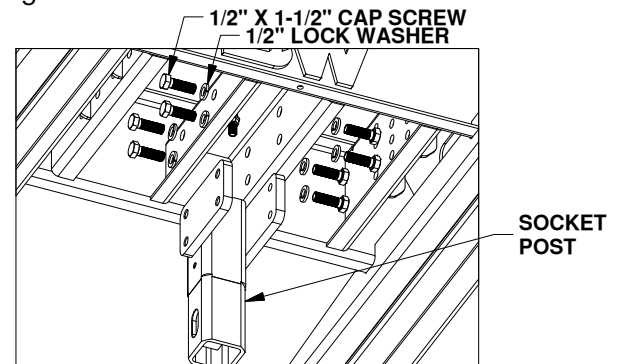

Figure B2: View of base looking up at the bottom.
- 2. Attach socket post.** Once you have established in which orientation the socket post should be installed, locate the socket post, eight 1/2" X 1-1/2" cap screws, and eight 1/2" lock washers. Slide the socket post into the bottom of the Companion base and attach the socket post to the base with the eight 1/2" X 1-1/2" cap screws and lock washers. See Figure B2. Do not fully tighten hardware at this time.